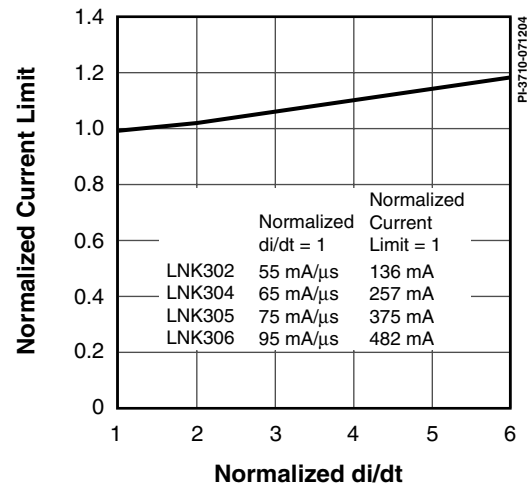

Figure 13. Current Limit vs. di/dt .
- For current limit at other di/dt values, refer to Figure 13.